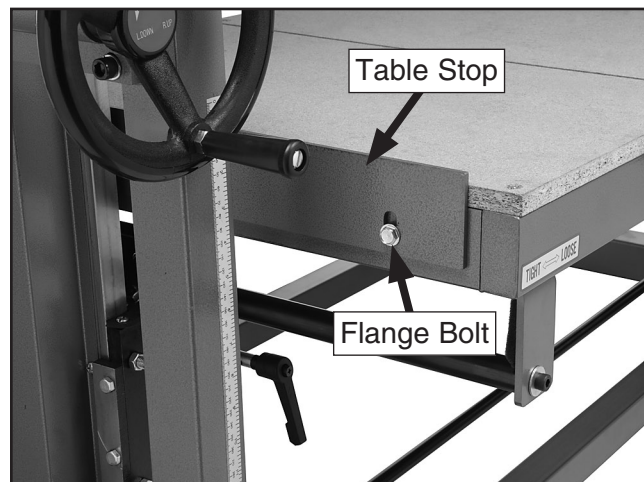

Figure 30. Table stop attachment.
20. Attach the table stop with (2) $\frac{5}{16}$ -18 x $\frac{1}{2}$ flange bolts (**Figure 30**).